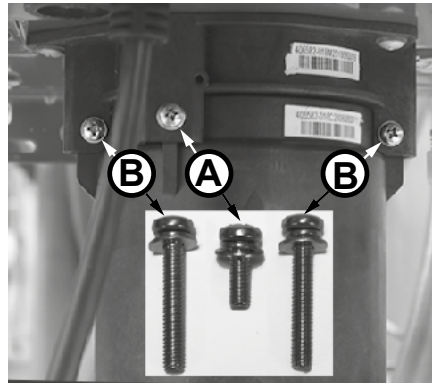

Figure 1 - Identify cartridge screws
- 6** Locate the three (3) screws securing the X3®/Bypass cartridge as shown in Figure 1. Remove the **(A)** M4-12mm screw and the two **(B)** M4-25mm screws from cartridge. Place screws aside in a safe place for reinstallation.